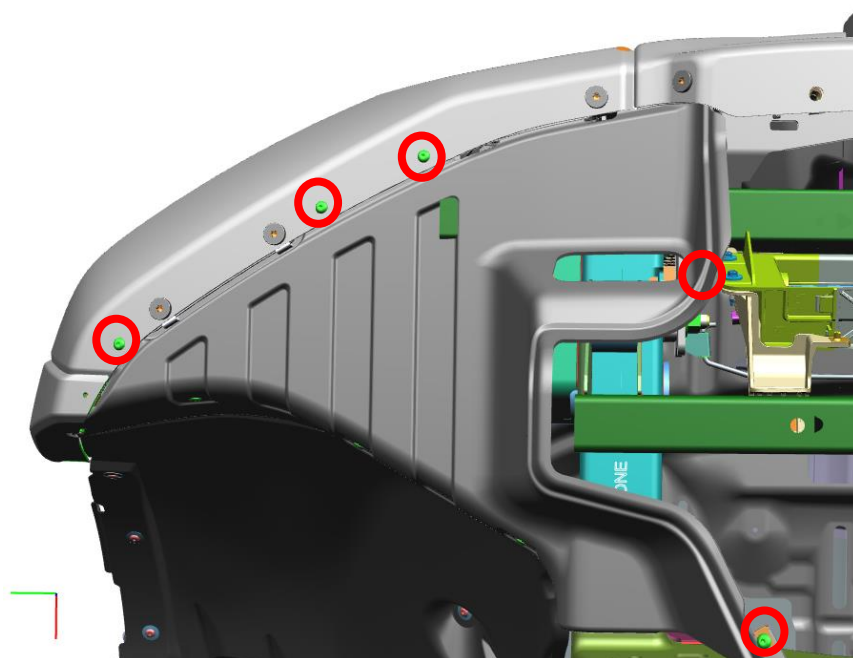

Figure 1 [No AEV Front skid pictured]
- a. Install closeout using [5] M4 Bolts (T15 Socket) 11611883 per side – Fig. 1